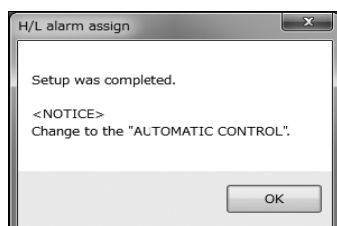

Fig.64
- ⑤ Click "OK" to change the settings to the selected values, and then click the "OK" button in the displayed message box (Fig. 64) to complete the setting process.